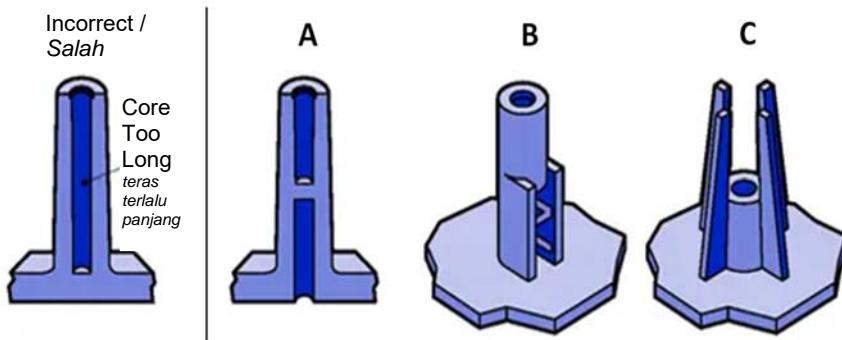

Figure 2: Long-core alternatives.
- (b). **Figure 2** shows the options to reduce excessively-long core pins for the bos system. Compare the **THREE (3)** design considerations and provide suitable explanations to support your comparison.